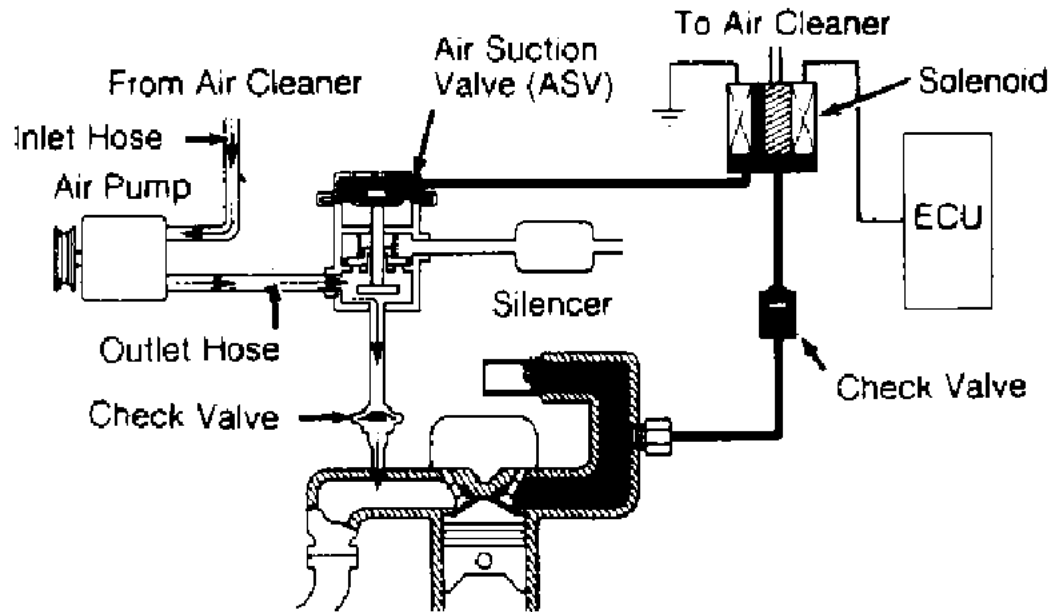

Fig. 25: Air Injection System (Typical)
This model is equipped with an Air Injection System (AIS). The AIS is designed to reduce hydrocarbons (HC) and carbon monoxide (CO) emissions by injecting air into the exhaust manifold. See Fig. 25.